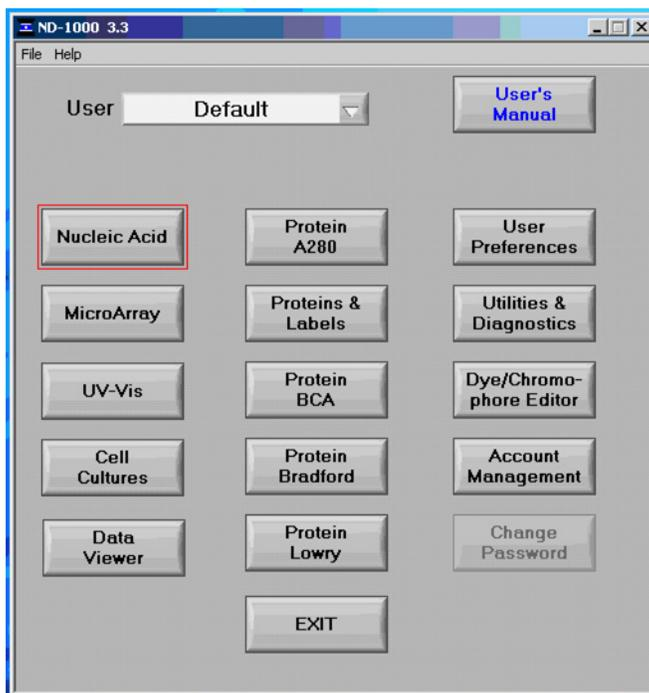

Figure 40 NanoDrop® ND-1000 Spectrophotometer software dialog box (from: <http://nanodrop.com/nd-1000-software.html>)
2. Open the NanoDrop ND-1000 Spectrophotometer software a dialog box displays (see Figure 40).